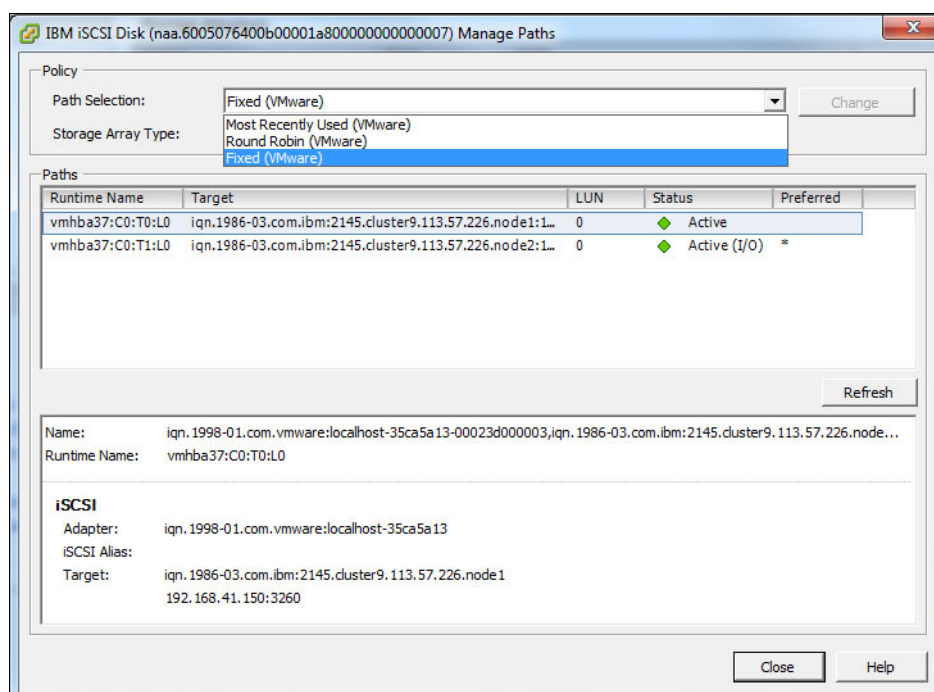

Figure 7-54 Path Selection
2. Change the policy by using the drop-down menu for Path Selection under Policy, as shown in Figure 7-54.